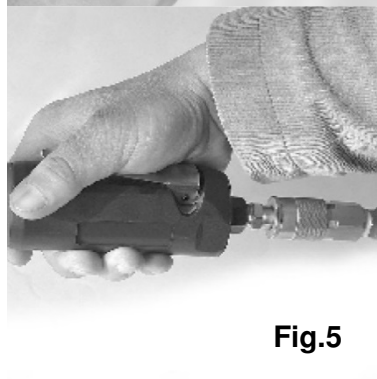

Fig.5
- 1.6. Push forward the throttle lever and press down on the throttle lever. How far the throttle lever is pressed determines the tool rotation speed. Then the tool starts to work. (Fig.5)